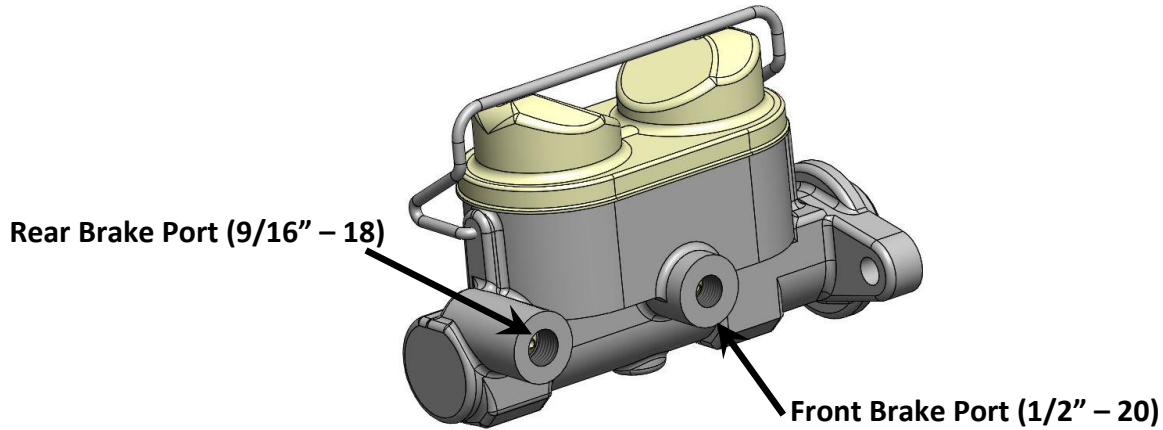
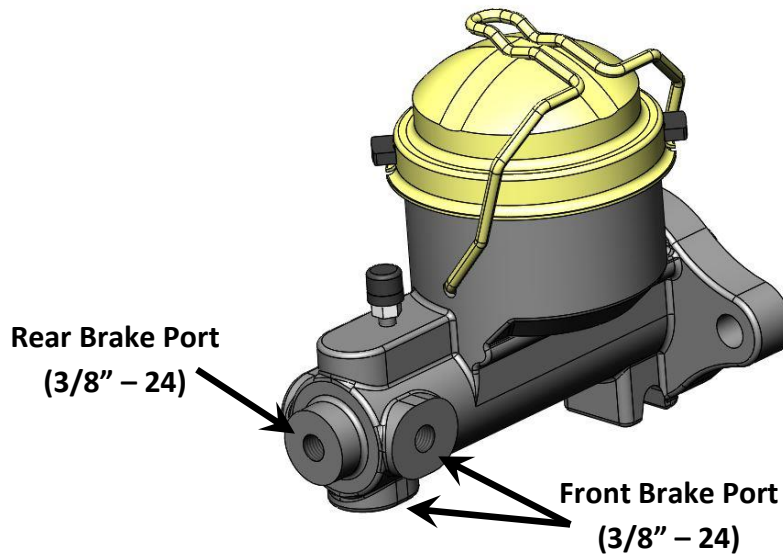

Figure 2 - Brake Line Orientation (BM15301-1)
Figure 3 - Brake Line Orientation (BM15301-3)
8. Route the brake lines from the master cylinder to whatever valve is being used in the system. Refer to Figure 2 below and Figure 3 on the next page for proper orientation of the brake lines to the master cylinder. If installing with a Master Power Brakes Combination Valve and bracket, refer to those instructions on proper plumbing of the valve.